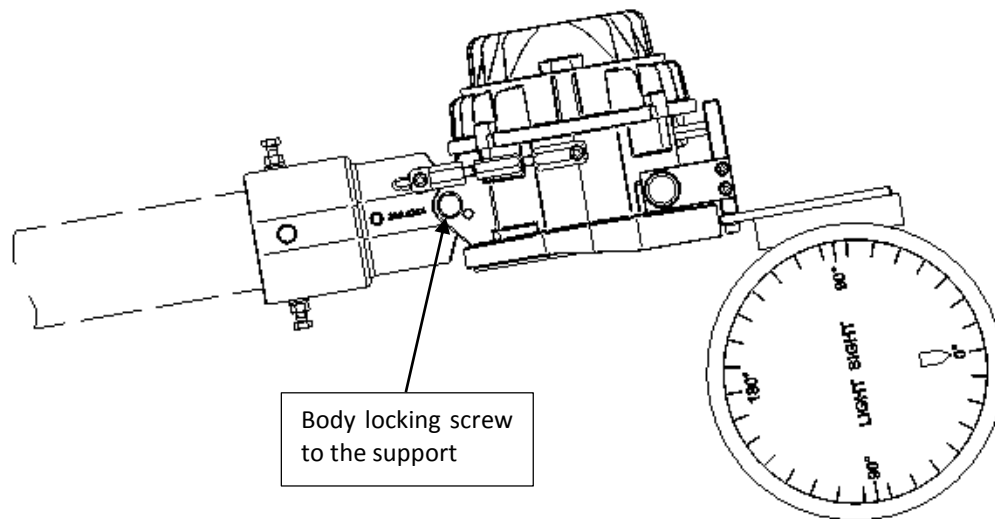

Figure 4: light sight position for vertical aiming
Figure 4: light sight position for vertical aiming	7
1. For the vertical aiming attach the light sight as per figure 4.
2. Be sure that both the screws with washer, which locks the body to the special support and act as fulcrum, are loosen (fig. 4).
7. Finally tighten the 2 screws which lock the fixture body to the special support (fig. 4).